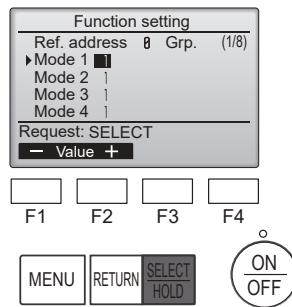
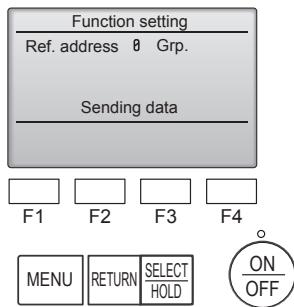

Fig. 7-15
Fig. 7-16
- ⑥ (Fig. 7-15) (Fig. 7-16)
- ① Going to the function select mode